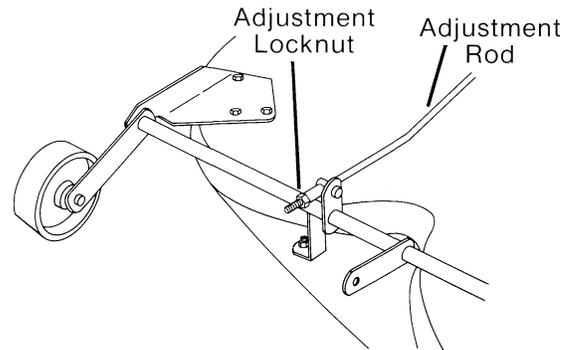

FIG. 21 53.0008
- d. Turn locknut on end of adjustment rod (Fig. 21) clockwise to raise front of the deck or counterclockwise to lower front of the deck.